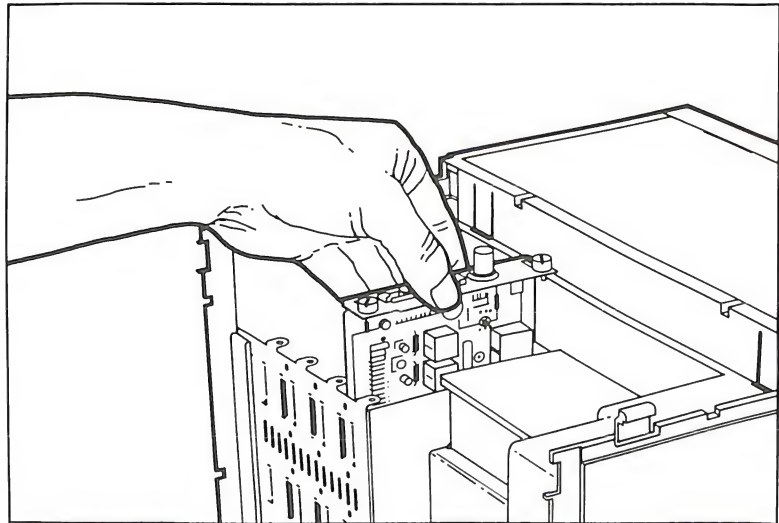

Figure D-1. Installing an Accessory Card
Additional memory (RAM cards) must be inserted in slot 1, which is the slot closest to the center of the computer. The installation of an accessory card in slot 1 is shown in Figure D-1.
5. Holding the edges, align the card with the card guides inside the slot. Slide the accessory card in with the components facing the center of the computer, as shown in Figure D-1. Push the card down so that it is seated securely in the brace on the bottom of the cage.